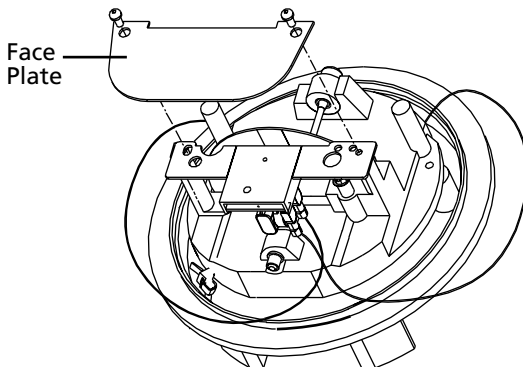

Figure 46. Attaching Face Plate
8. Attach the face plate and tighten screws. See Figure 46.